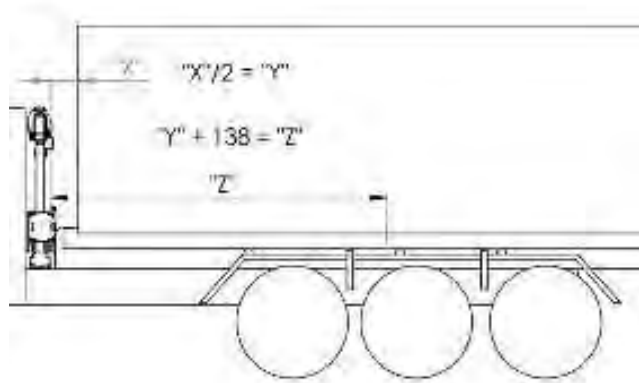

Fig. 3
- a. Measure from the back edge of the tower foot to where the front of the container will be ("X" dimension in figure 3.) **Divide this # in half to get Distance "Y" in figure 3.**
- b. **Add "Y" as calculated in step – "a" to 138" to get dimension "Z" in figure 3.**